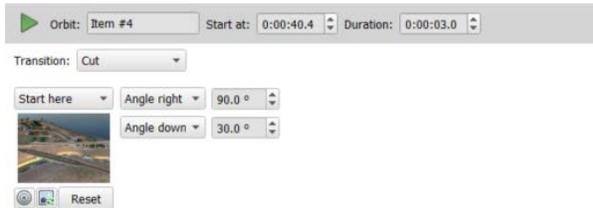

Figure 30
3. In the keyframe settings, do the following, as shown in Figure 30.